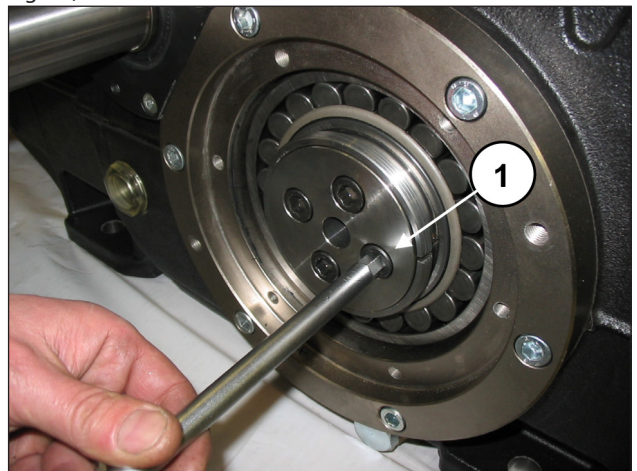

Fig. 14
Unscrew and take out the bush locking flange attachment screws, from both sides (pos. ①, Fig. 14).